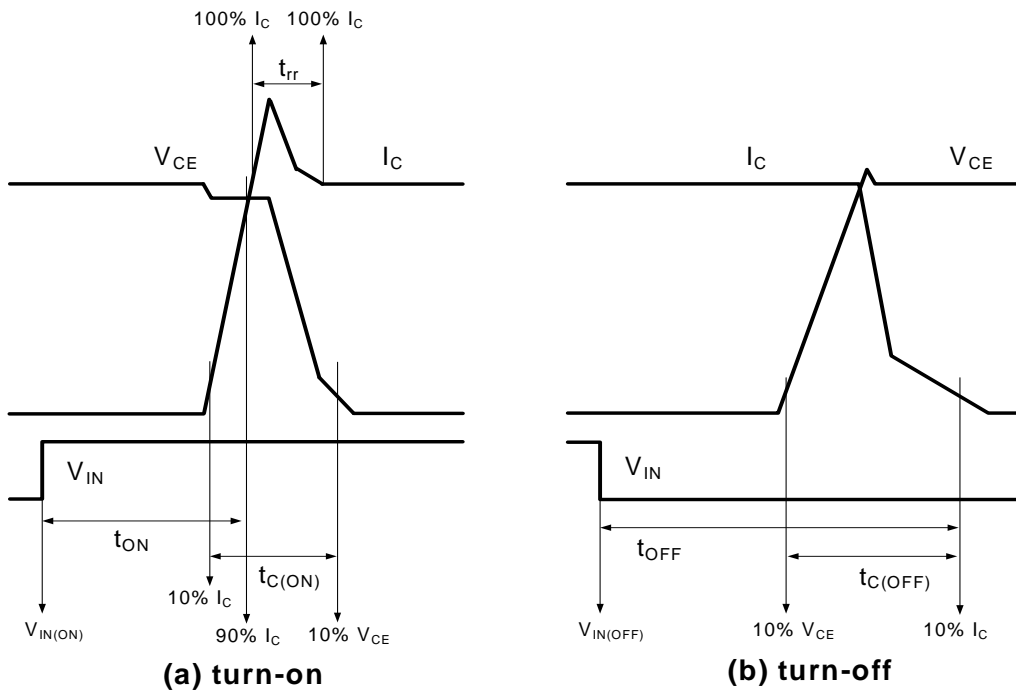

Figure 4. Switching Time Definition
6. tON and tOFF include the propagation delay time of the internal drive IC. tC(ON) and tC(OFF) are the switching time of IGBT itself under the given gate driving condition internally. For the detailed information, please see Figure 4.